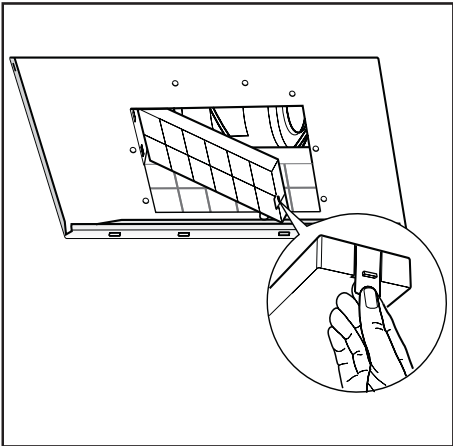

Fig.20
- **Filter hood:** connect the flexible hose to the deflector **M** as indicated in (Fig. 10); the active carbon filters should be fitted to the extraction assembly inside the hood (Fig. 20).